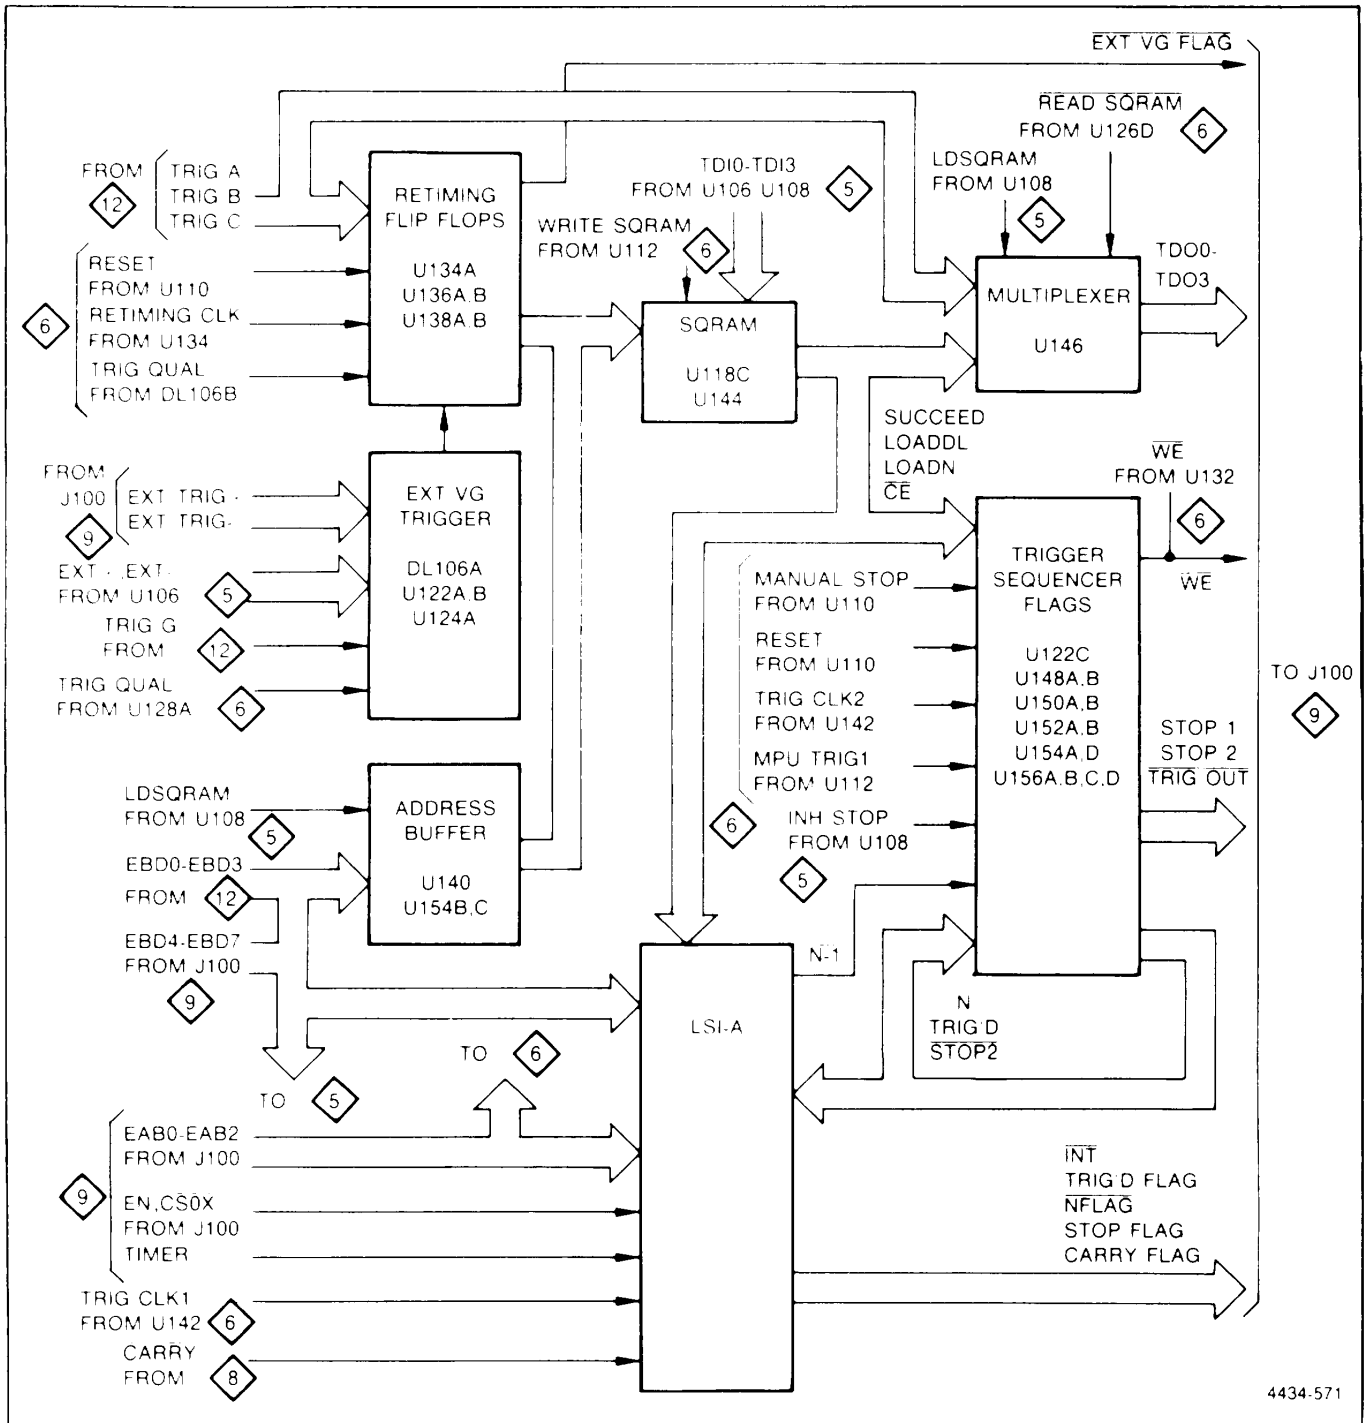

Figure 4-17. 338 Simplified diagram of the ACQ control circuitry on schematic <7>.
Figure 4-17 shows the external and glitch trigger circuitry, retiming flip-flops, address buffer, SQRAM, trigger sequencer circuit, SQRAM Data/Word recognizer, data selection circuit, and LSI-A.
***Refer to Figure 4-17 for a simplified block diagram of the ACQ control circuitry on schematic <7>.***